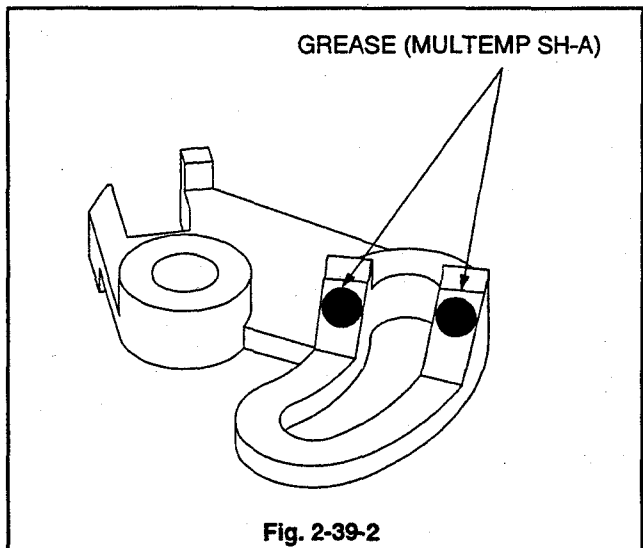

Fig. 2-39-2
1. Apply GREASE (MULTEMP SH-A) [859D055O80] to the area of the new SHIFT LEVER shown in Fig. 2-39-2.